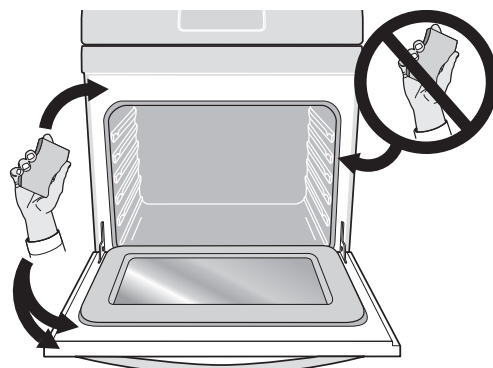

Figure 21: Clean around the oven door gasket
- Do not use oven cleaners or protective coatings in or around any part of the oven interior. Do not clean the oven door gasket. Take care not to rub, damage, or remove the gasket or use any cleaning substances on the oven door gasket (See Figure 21). Doing so could cause damage and reduce the efficiency of the oven's performance.
- Clean any soil from the oven frame, door liner outside the oven door gasket, and the small area at the front center of the oven bottom with soap and water (See Figure 21). These areas heat sufficiently to burn soil on.